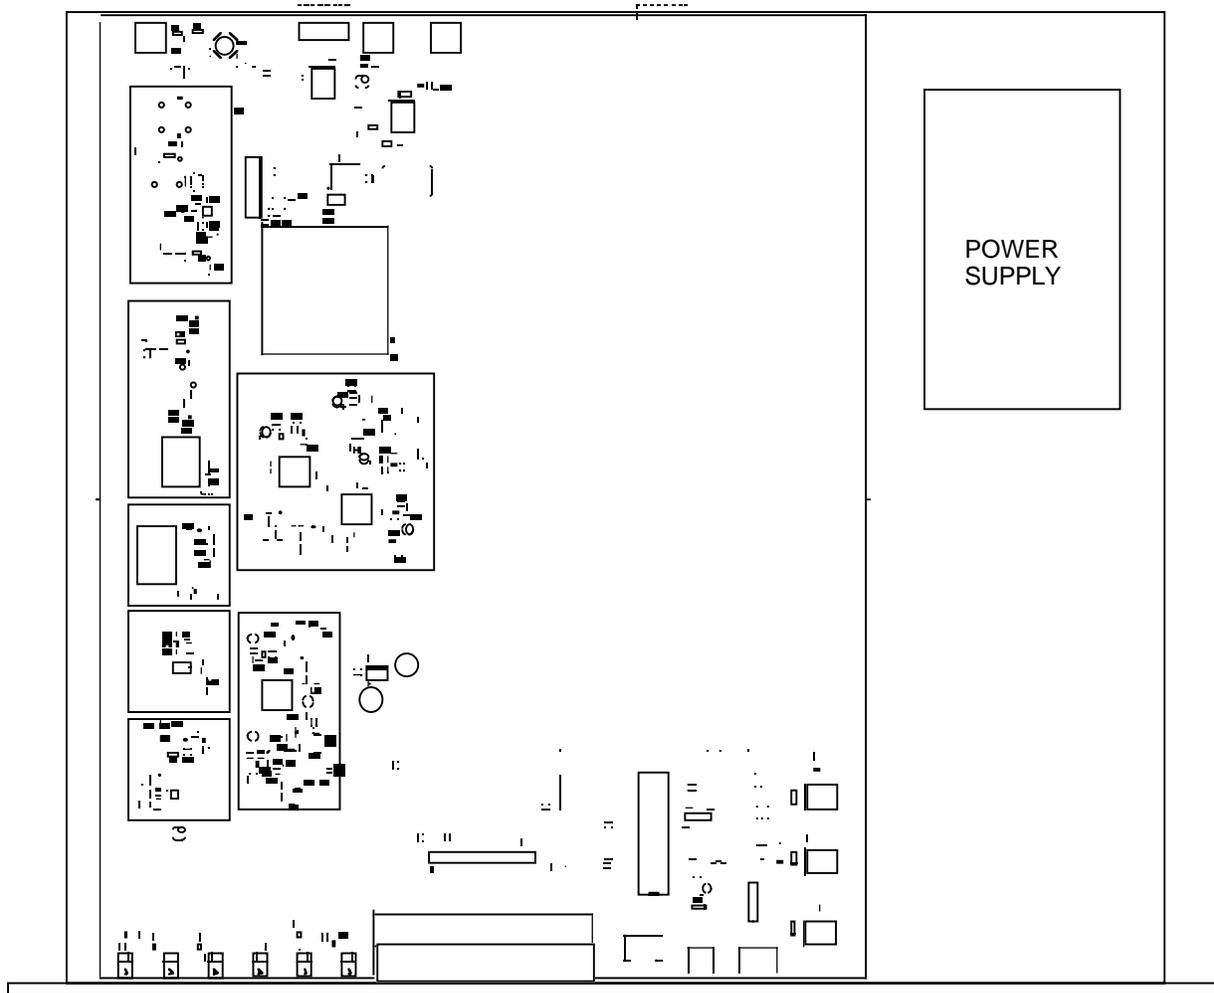

FIGURE 2.0 2015-03U140 Mechanical Assembly
2.1 Mechanical - The 2015-03U140 consists of one RF/Controller PCB housed in a 1 RU (1 3/4 inch high) by 16 inch deep chassis. A switching, ± 12 , +24, +5 VDC power supply provides power for the assemblies. The 2015-03U140 can be secured to a rack using the 4 holes on the front panel. Figure 2.0 shows how the 2015-03U140 is assembled.